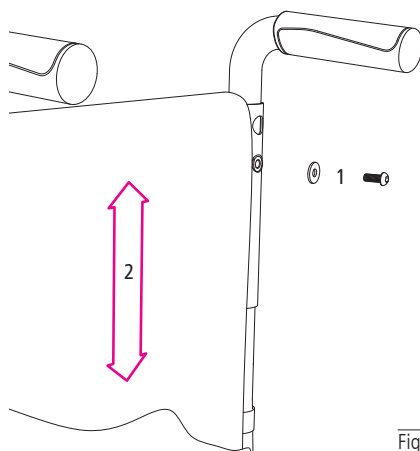

Fig. 46
1. To do this, loosen the Allen screw (1, Fig. 46) on the top of the back tube (or the thumb screw of the height adjustment in the case of height-adjustable handles).
2. Move the seatback cushion to the desired position (2, Fig. 46) and then insert the screws again.